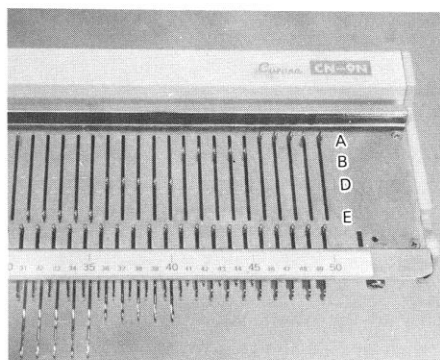
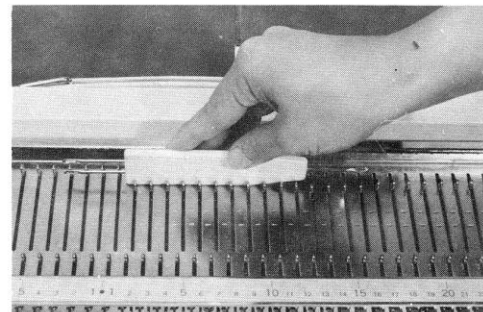

Fig.22
Fig.40
Positions of the needles herein referred to are positions of the butts of the needles. (Fig.22)
e) Using the plastic handle of the transfer tool, bring the required number (30 or so) of needles forward as shown in Fig.40 and align them in working position (B) – see also Fig.22.